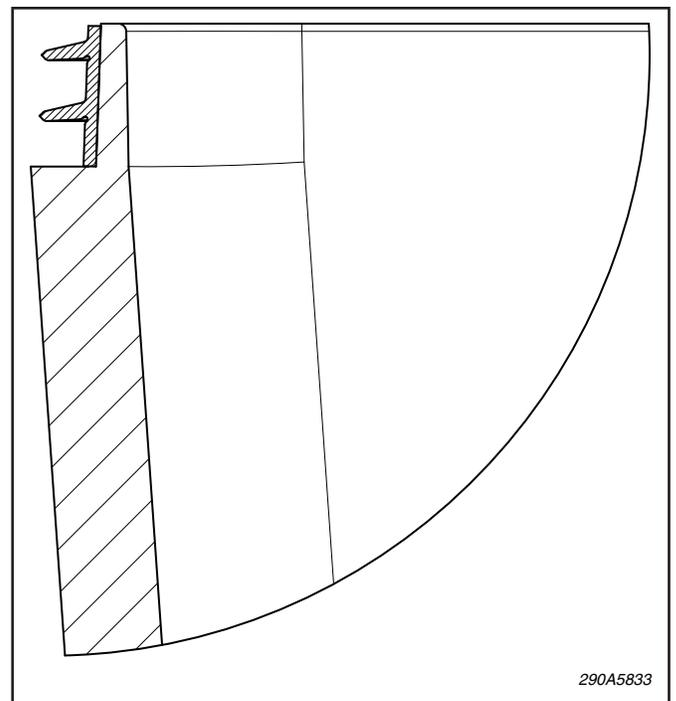

Figure 7.
J. Lip Seal Replacement (see figure 7).